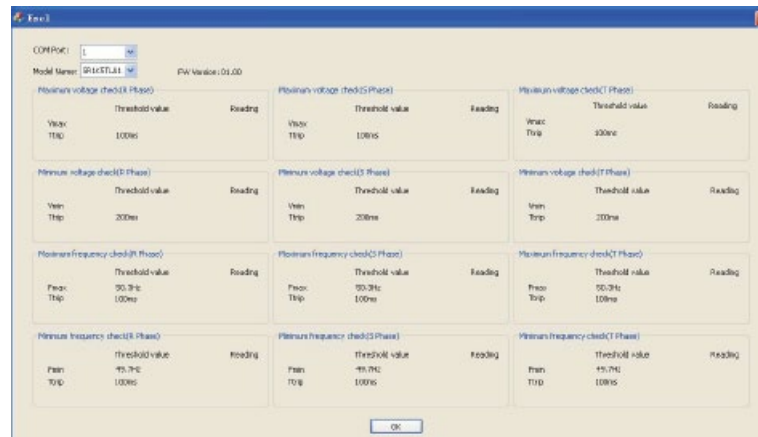
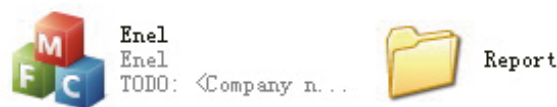

Figure 26
Figure 27
28. Open the "Enel.exe" file shown in Figure 26 in PC (User can download "Enel.exe" application software from [www.samilpower.com](http://www.samilpower.com)), one "Report" folder will be produced at the same directory with "Enel.exe" file, and each time "txt" format report generated will be stored to the "Report" folder, as shown in Figure 27.